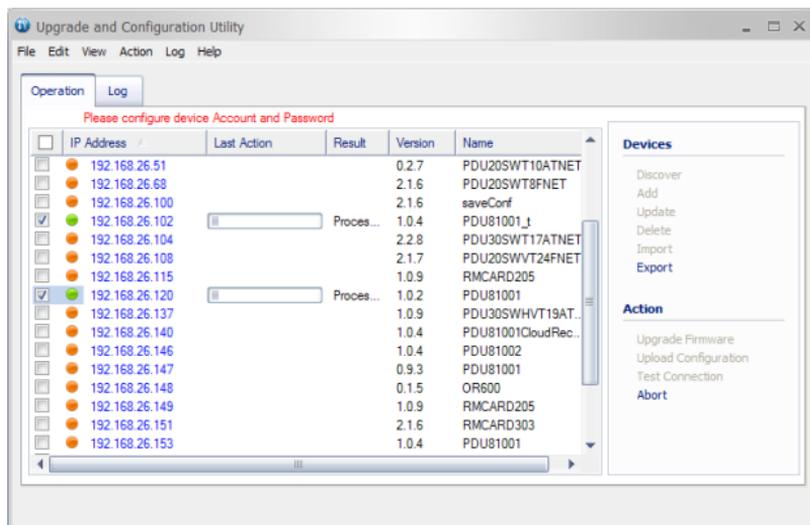

Figure 6
- The upgrade progress bar will show in **Last Action** column (Shown in Figure 6).